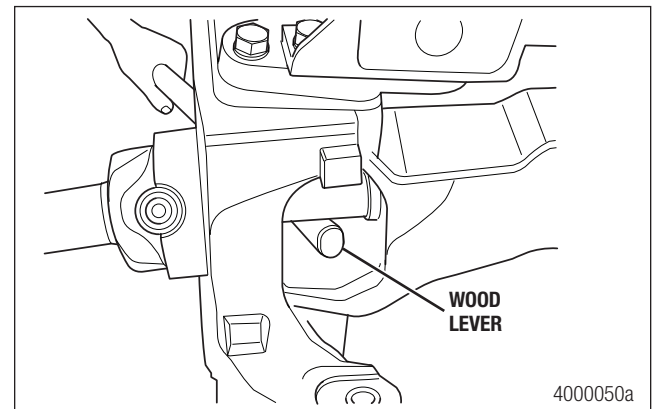

Figure 8.14
3. Install the inner axle shaft through the steering knuckle and into the axle housing. Use the piece of wood as a lever to support the axle shaft. Figure 8.14.